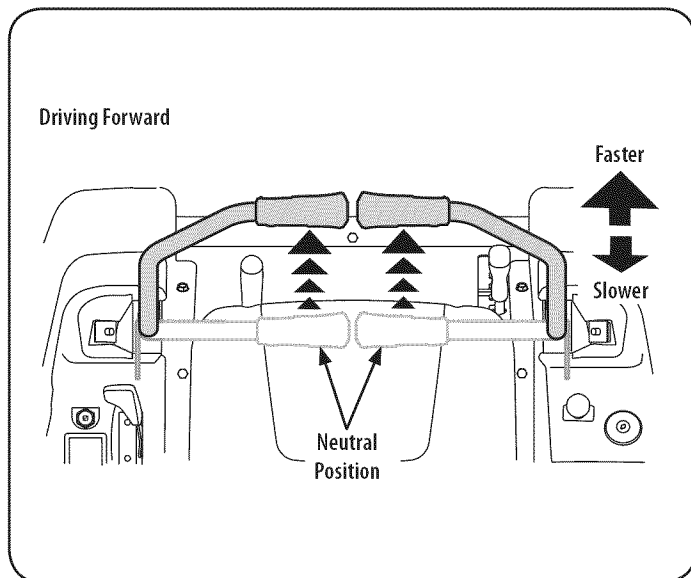

Figure 15
1. Slowly and evenly move both drive control levers forward. The riding mower will start to move forward. See Figure 15.